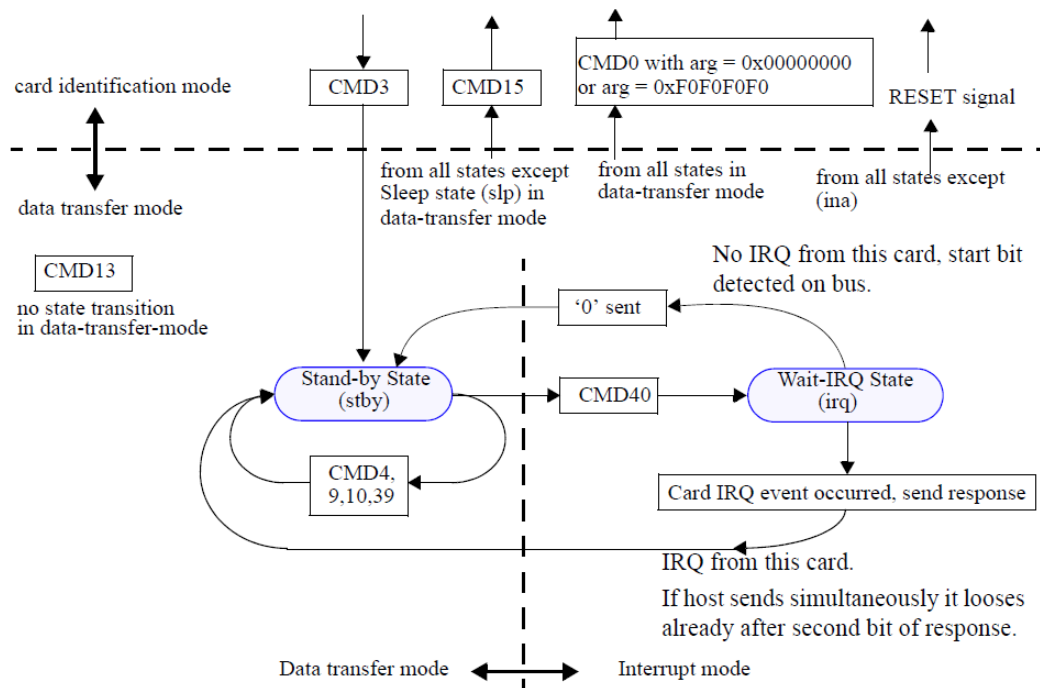

Figure 23 — eMMC state transition diagram, interrupt mode
- The system behavior during the interrupt mode is described in the state diagram in Figure 23.